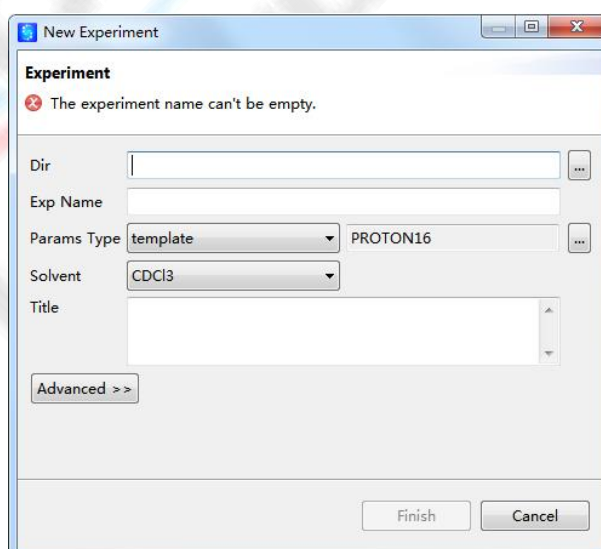

Figure 1.66 Create a new experiment dialog on the user node
② New Experiment: Create new experiment in current user (Figure 1.66). You can use the current directory or choose a new one, then fill in a name for the experiment, and choose the parameter type. If there is now data opened in workspace, the default parameter type is template and the default template is PROTON16; on the other hand, the default type is Current workspace parameter, i.e., using the parameters of the active workspace. Finally, click **Finish** to complete the creation.